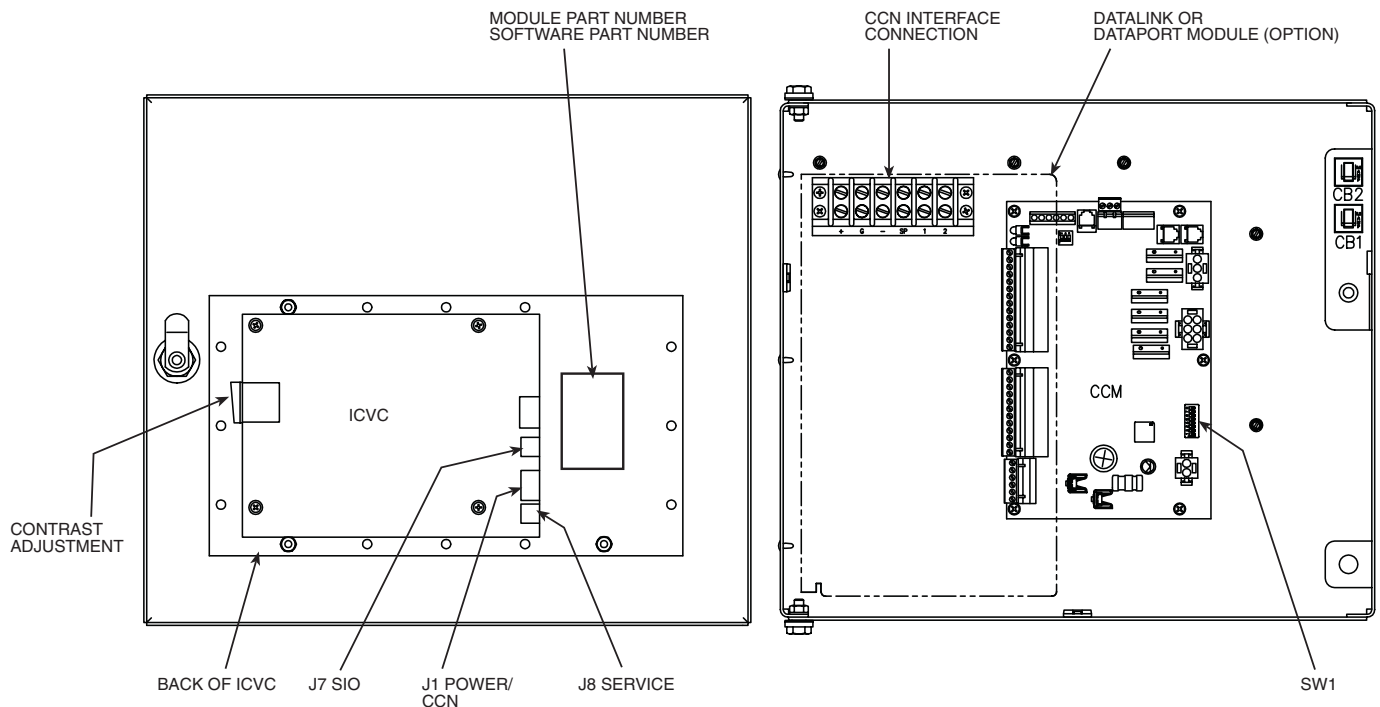

Fig. 44 — Rear of ICVC (International Chiller Visual Controller)
2. If a green LED is on continuously, check the communication wiring. If a green LED is off, check the red LED operation. If the red LED is normal, check the module address switches (SW1) (Fig. 44 and 45). Confirm all switches are in OFF position.